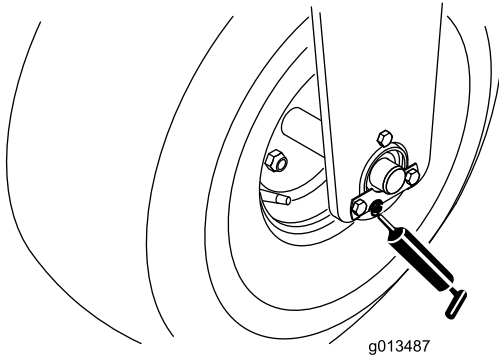

Figure 14
- Front wheel bearing (2) (Figure 14)